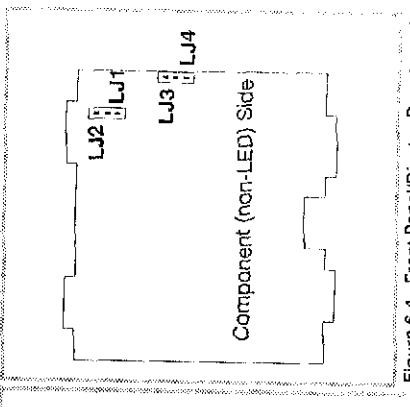

Figure 6-4 Front Panel/Display Board - Link Jumpers
** On the Front Panel PCB, fit links LJ2 and LJ3 for °C, or LJ1 and LJ3 for °F (see Figure 6-4)
* On the Front Panel PCB, fit links LJ2 and LJ3 for °C, or LJ1 and LJ3 for °F (see Figure 6-4)
NOTE: On the Front Panel PCB, links Lj2 and Lj4 should be fitted (see Figure 6-4).
The action of Output 2 is always the opposite of that for Output 1 (i.e. if Output 1 is reverse-acting, Output 2 is direct-acting, or vice versa). If Output 2 is to be used, link LJ20 on the Options Board (see Figure 6-4) should be fitted. If Output 2 is not to be used, link LJ20 should be parked. To change the action of the Alarm Output, links on the options Board should be fitted in accordance with the information in Table 6-5. Refer to Subsection 4.6 for details of Alarm Output operation.